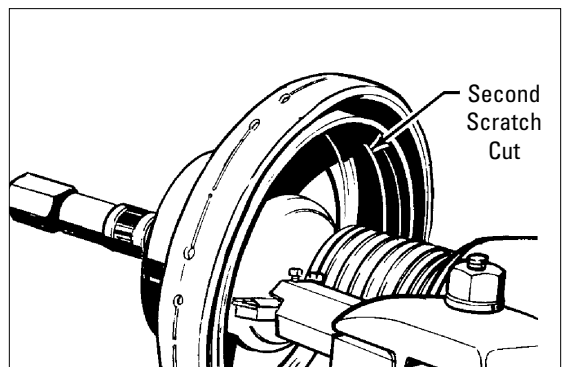

Figure 14 - Second scratch cut
**13.** Turn the spindle feed handwheel 1/2 turn in either direction and make a second scratch cut (figure 14).